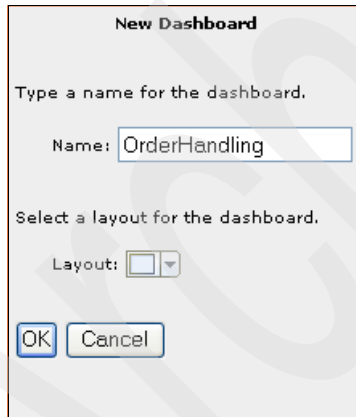

Figure 8-148 Setting the new dashboard name
4. In the New Dashboard panel (Figure 8-148), for Name, type OrderHandling, and click **OK**.